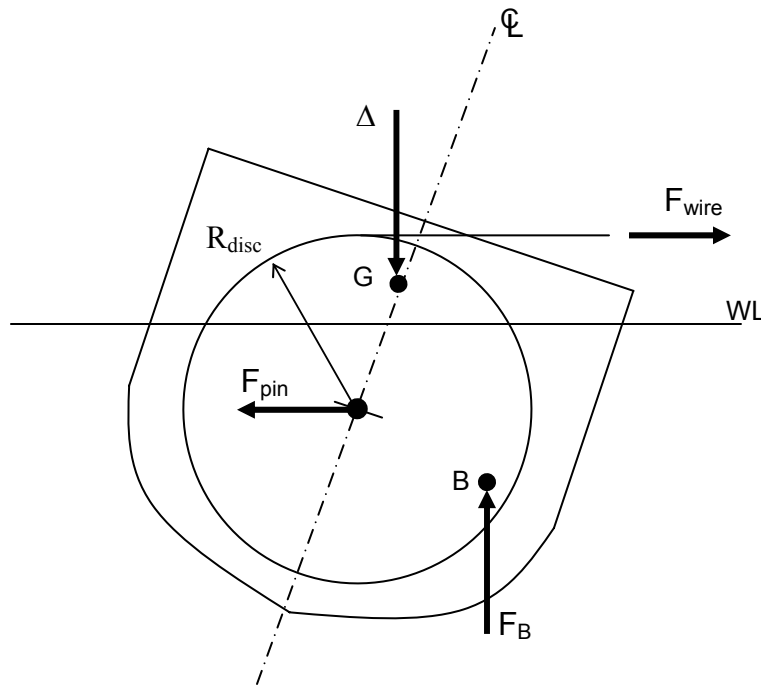

Figure 2 – Simplified view of the model being heeled
1. Figure 2 represents the model being heeled with its associated upsetting and righting moments.